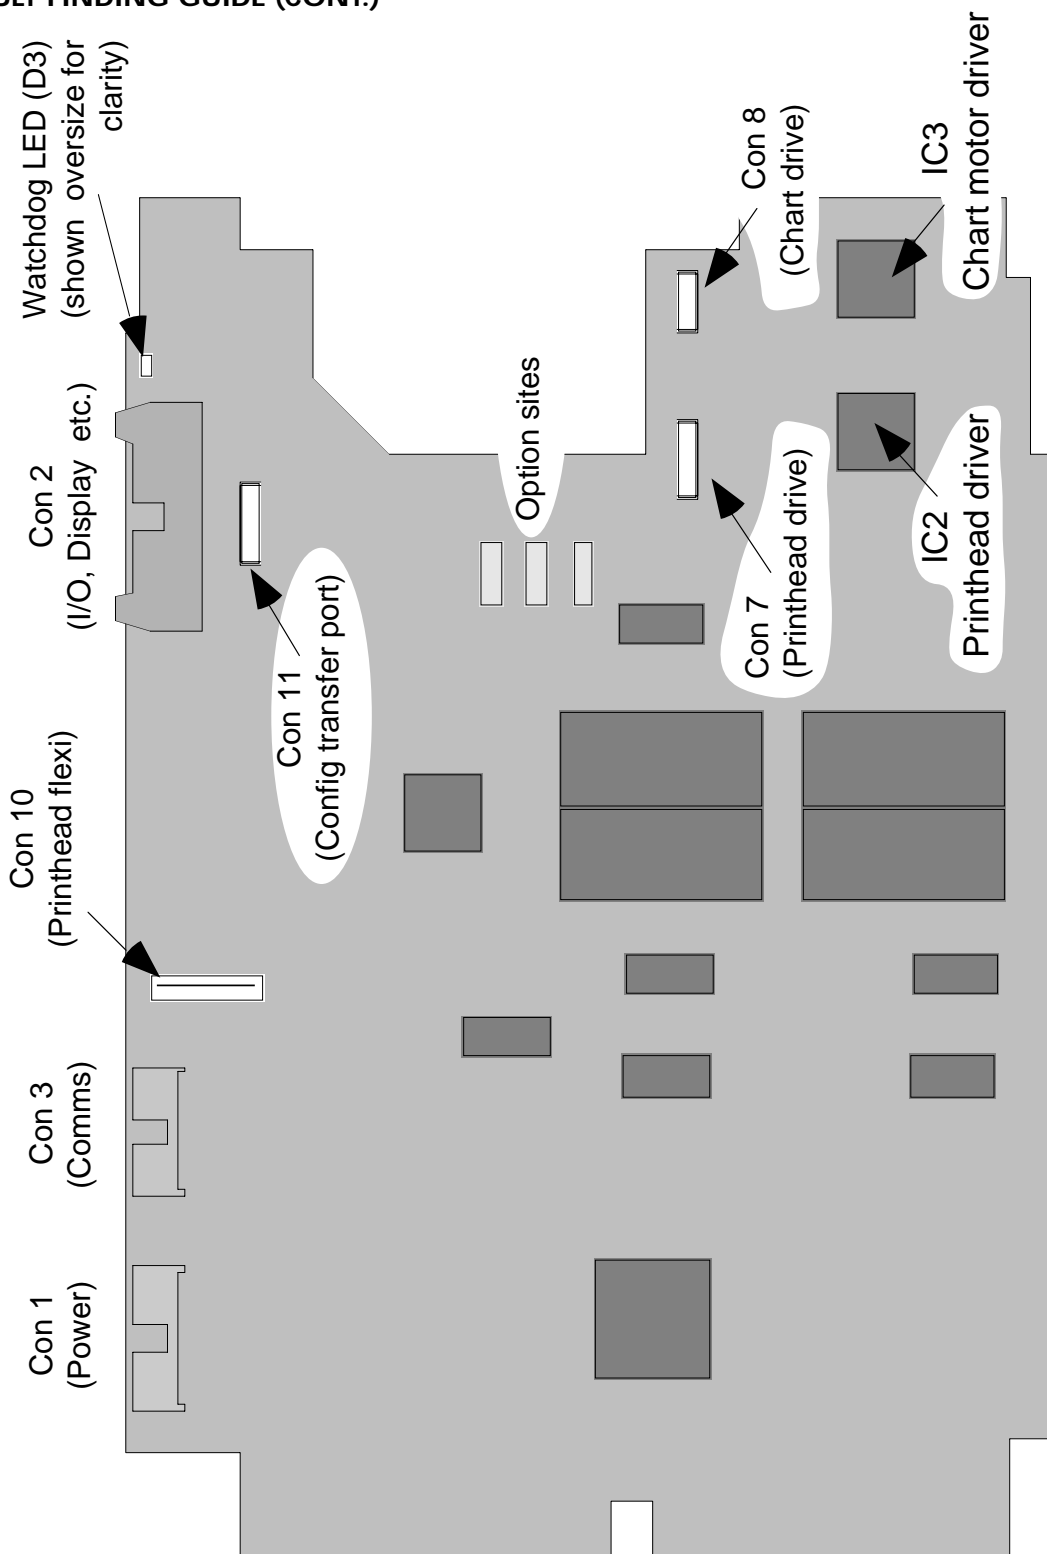

Figure 3.1.2 Connector and LED locations
Drive problem	With the recorder door open, observe the 'Watchdog' LED on the control board (figure 3.1.2). If this is flashing, replace the drive board. If the LED is on, switch the printer off-line and remove the chart. Press the chart ADVANCE softkey. The chart drive sprockets should wind rapidly forwards for about five seconds. If not, check the drive belt (located at the right-hand side of the cassette). Switch the recorder off. Check that the motor loom is undamaged and that it is properly connected into the writing system circuit board (CON 8). If so, release the circuit board, and taking the relevant static precautions, inspect the motor driver (IC3) for damage. If there is damage, check the resistance between pins 1 and 2 and between pins 3 and 4 of the motor connector. If either of these measurements lies outside the range 5 to 15 Ohms, replace both the control board and the drive motor. If there is no apparent damage to IC3, carry out the resistance measurements just described. If the resistances lie outside the range, replace the motor. If the resistance measurements are correct, replace the control board.
Drive problem	Open the recorder door and check the printhead drive belt condition (including whether the printhead is correctly attached to it). See section 4.3 for details. If so, observe the 'Watchdog' LED on the control board (figure 3.1.2). If this is flashing, replace the drive board. If the LED is on, switch the recorder off. Check that the motor loom is undamaged and that it is properly connected into the writing system circuit board (CON 7). If so, release the circuit board, and taking the relevant static precautions, inspect the motor driver (IC2) for damage. If there is damage, check the resistance between pins 1 and 2 and between pins 3 and 4 of the motor connector. If either of these measurements lies outside the range 5 to 15 Ohms, replace both the control board and the drive motor. If there is no apparent damage to IC3, carry out the resistance measurements just described. If the resistances lie outside the range, replace the motor. If the resistance measurements are correct, replace the control board.
* For Control board component locations see figure 3.1.2